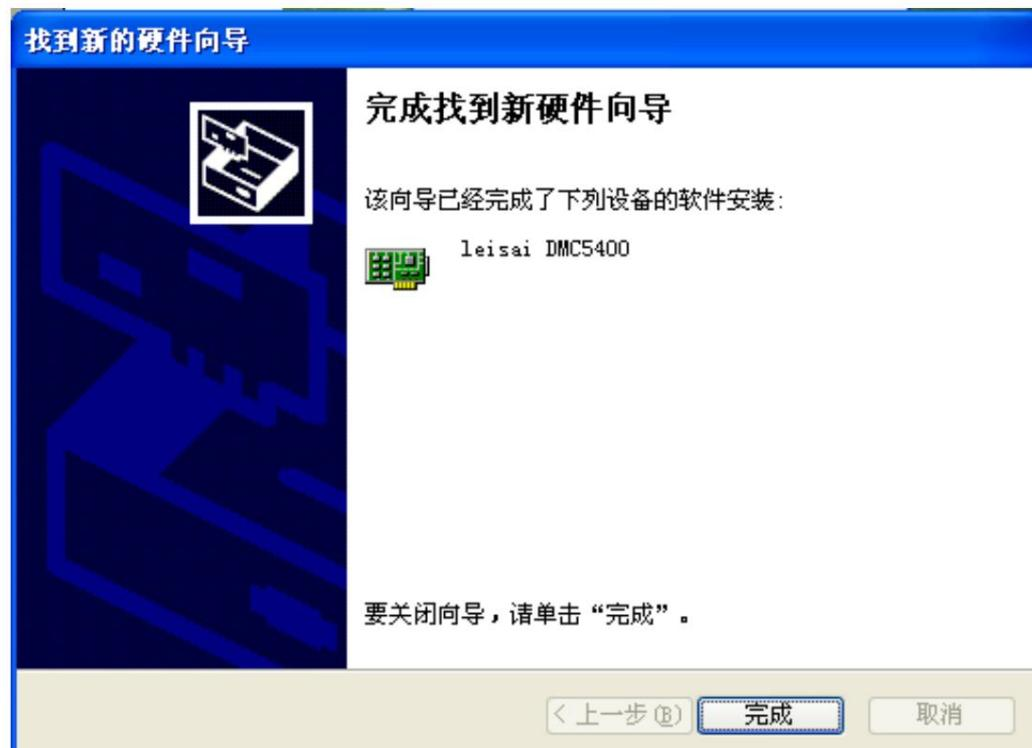

Figure 5-13 Complete the DMC5400 installation
7. After the installation is complete, the display interface is shown in Figure 5-13: